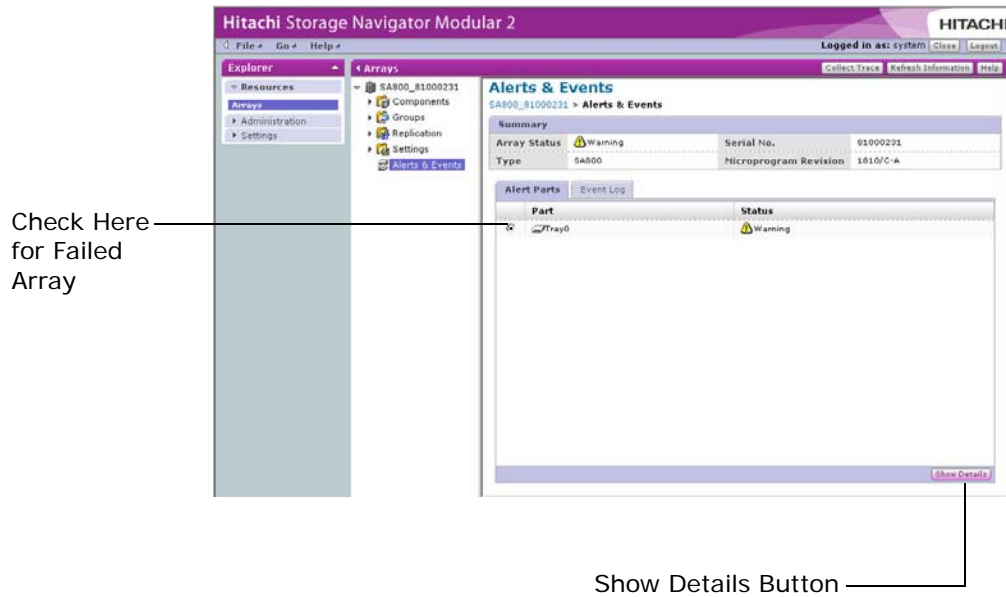
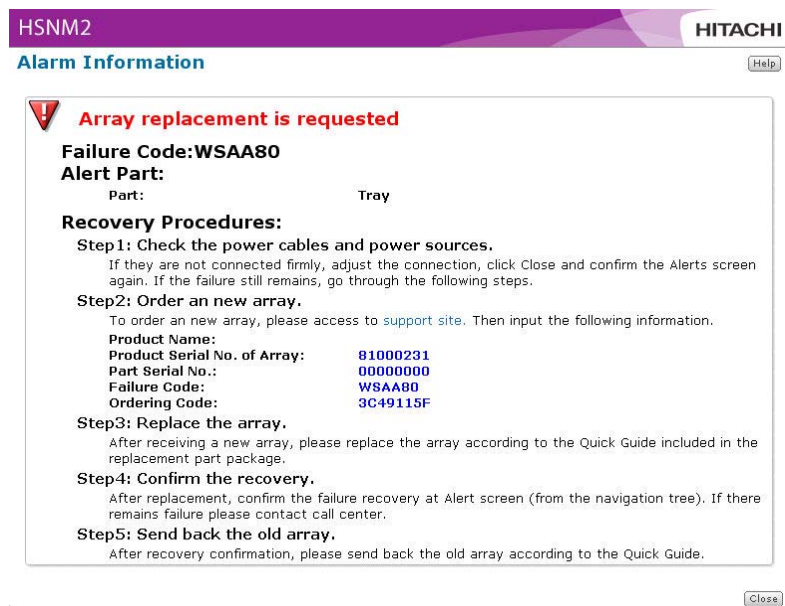

Figure 4-3: Example of Failed Part in the Alerts & Events Window
Figure 4-4: Example of Alarm Information Window
5. If one failed part is shown in the Alerts & Events window, click **Show Details** (see Figure 4-3 on page 4-4), read the details about the failed part in the Alarm Information window (see Figure 4-4 on page 4-4), and click the link to the support site.